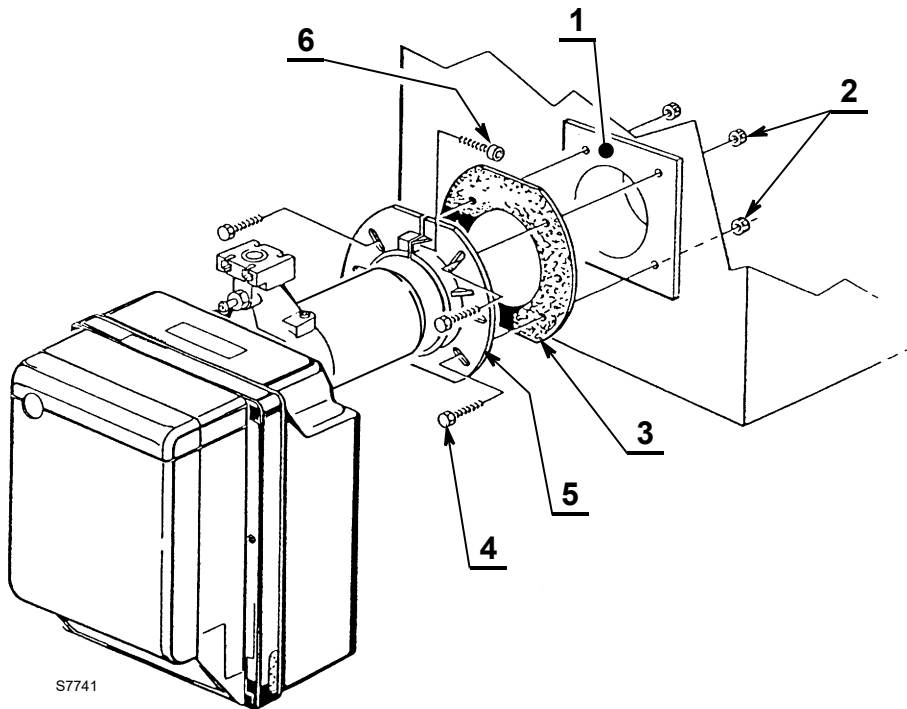

Fig. 12
- Fix the flange 5 (Fig. 12) to the door of the boiler 1 (Fig. 12) placing the insulating gasket 3 in between using the screws 4) and (if necessary) the nuts 2), but keeping one of the two top screws 4) (Fig. 12) loose.
- Insert the combustion head of the burner into the flange 5 (Fig. 12), tighten the flange with the screw 6), then lock the screw 4) (Fig. 12) which was loose.